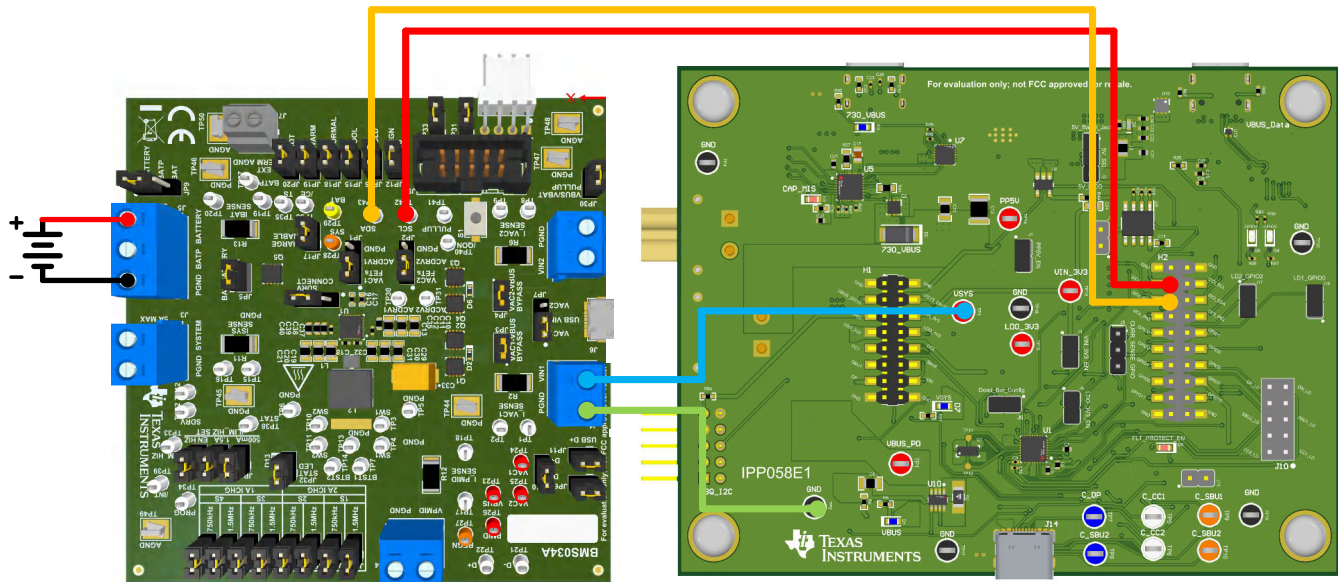

Figure 4-3. TPS25751AEVM and BQ25792EVM, BQ25798EVM Hardware Setup
1. Figure 4-3 shows how to use the test hook clips or jumper wires to connect the two EVMs. See Table 4-2 for details.